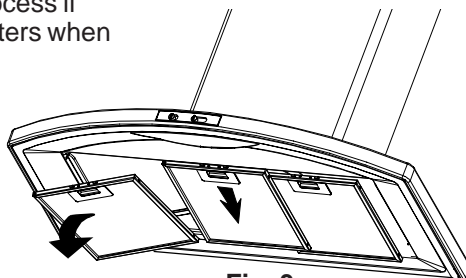

Fig. 3
- First, push the metal grease filter stop backwards, then extract the filter, pulling downwards. **Fig. 3.**